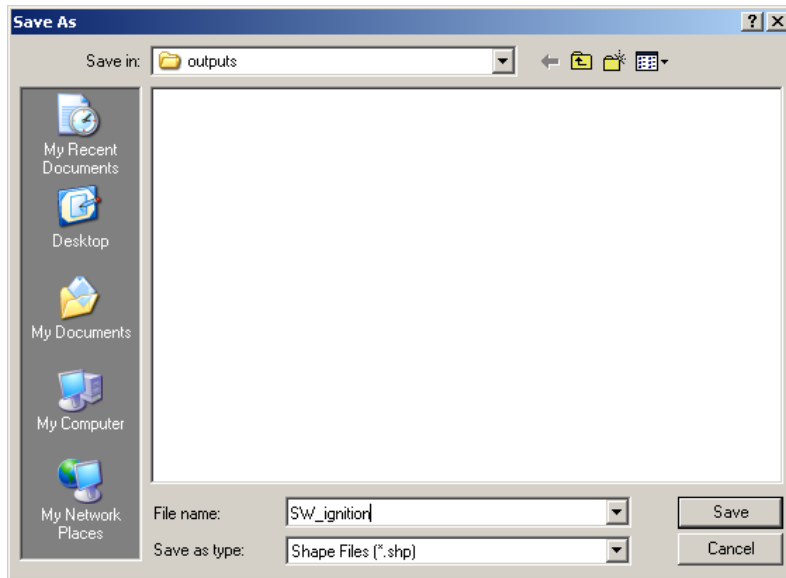

Figure 4-44—Saving the ignition.
- a) Under *Ignitions*, select the *From File* option, and then click **Load Current Shape**. You will be prompted to save the file; save it as “SW_ignition” in the outputs folder of the ArcFuels directory (fig. 4-44).